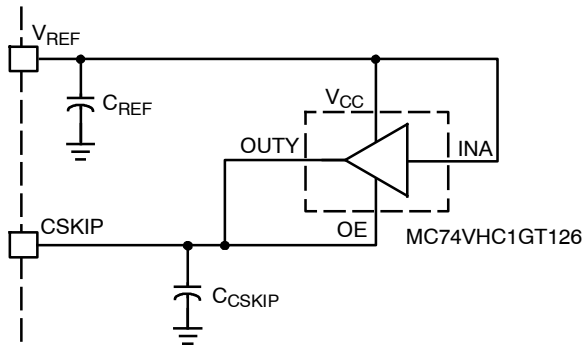

Figure 38. External Latch Implemented using ON Semiconductor's MiniGate™ Buffer
The latch in Figure 38 consists of a TTL level tri-state output buffer from ON Semiconductor's MiniGate™ family. The enable (OE) and output (OUTY) terminals are connected to CSKIP and the V_{CC} and INA pins are connected to V_{REF} . The output of the buffer is in a high impedance mode when OE is low. Once a continuous current limit condition is detected, the CSKIP timer is enabled and CSKIP begins charging. Once the voltage on CSKIP reaches the enable threshold of the buffer, the output of the buffer is pulled to V_{REF} , latching the CSKIP timer. The OE threshold of the buffer is typically 1.5 V.